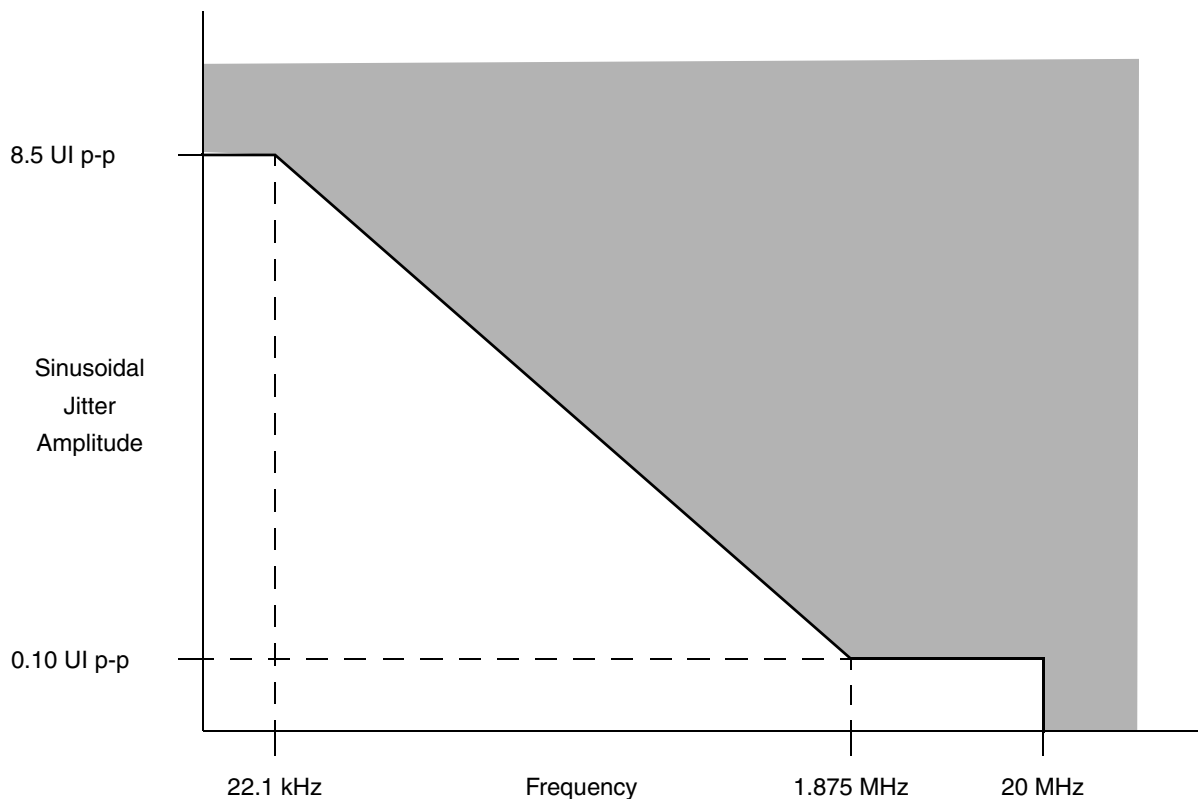

Figure 42. Single-Frequency Sinusoidal Jitter Limits
2. Total jitter is composed of three components: deterministic jitter, random jitter, and single frequency sinusoidal jitter. The sinusoidal jitter may have any amplitude and frequency in the unshaded region of Figure 42. The sinusoidal jitter component is included to ensure margin for low frequency jitter, wander, noise, crosstalk and other variable system effects.